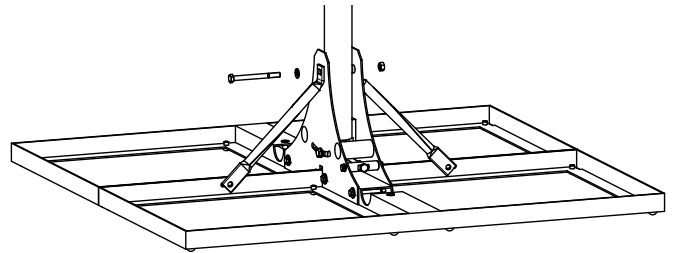

Fig. 4: Attaching the stabilising legs (1)
5. Attach the two stabilising legs to the upper part of the mast foot using a M10 x 110 screw with a torque of 25 Nm (Fig. 4).